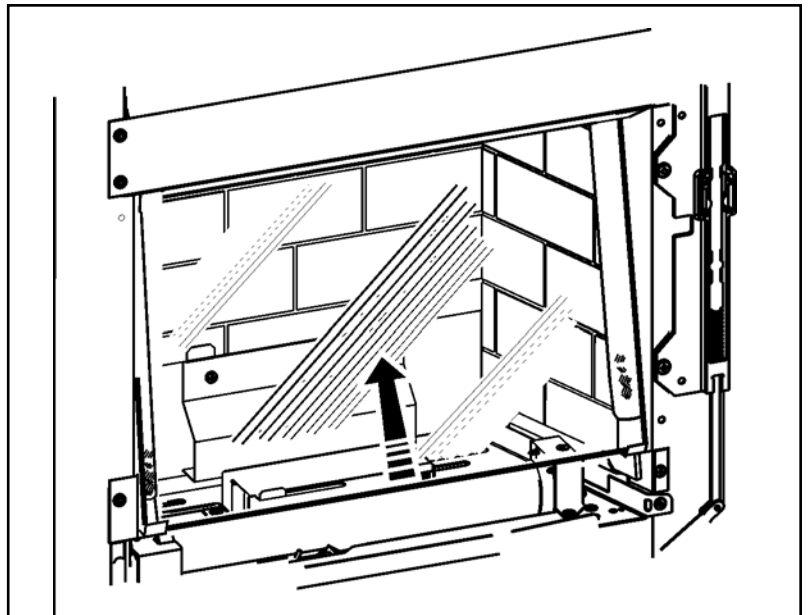

Figure 11. Window removal
3. Lift the glass panel clear of its lower support channels (See figure 11). Lower and remove the glass panel. Place the glass panel in a safe place away from the work area.